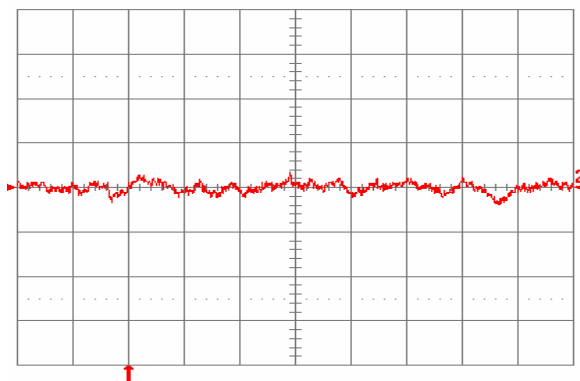

**Fig. 5.0V.14:** Test Setup for measuring input reflected ripple currents,  $i_c$  and  $i_s$ .
**Fig. 5.0V.1:** Available load current vs. ambient air temperature and airflow rates for SQ48T10050 converter with D height pins mounted vertically with  $V_{in} = 48\text{ V}$ , air flowing from pin 3 to pin 1, and maximum FET temperature  $\leq 120^\circ\text{C}$ .
**Fig. 5.0V.2:** Available load current vs. ambient air temperature and airflow rates for SQ48T10050 converter with D height pins mounted horizontally with  $V_{in} = 48\text{ V}$ , air flowing from pin 3 to pin 1, and maximum FET temperature  $\leq 120^\circ\text{C}$ .
**Fig. 5.0V.3:** Available load current vs. ambient air temperature and airflow rates for SQ48S10050 converter mounted vertically with  $V_{in} = 48\text{ V}$ , air flowing from pin 3 to pin 1, and maximum FET temperature  $\leq 120\text{ }^{\circ}\text{C}$ .
**Fig. 5.0V.4:** Available load current vs. ambient air temperature and airflow rates for SQ48S10050 converter mounted horizontally with  $V_{in} = 48\text{ V}$ , air flowing from pin 3 to pin 1, and maximum FET temperature  $\leq 120\text{ }^{\circ}\text{C}$ .
**Fig. 5.0V.5:** Efficiency vs. load current and input voltage for SQ48T/S10050 converter mounted vertically with air flowing from pin 3 to pin 1 at a rate of 300 LFM (1.5 m/s) and  $T_a = 25\text{ }^{\circ}\text{C}$ .
**Fig. 5.0V.6:** Efficiency vs. load current and ambient temperature for SQ48T/S10050 converter mounted vertically with  $V_{in} = 48\text{ V}$  and air flowing from pin 3 to pin 1 at a rate of 200 LFM (1.0 m/s).
**Fig. 5.0V.7:** Power dissipation vs. load current and input voltage for SQ48T/S10050 converter mounted vertically with air flowing from pin 3 to pin 1 at a rate of 300 LFM (1.5 m/s) and  $T_a = 25^\circ\text{C}$ .
**Fig. 5.0V.8:** Power dissipation vs. load current and ambient temperature for SQ48T/S10050 converter mounted vertically with  $V_{in} = 48\text{ V}$  and air flowing from pin 3 to pin 1 at a rate of 200 LFM (1.0 m/s).
**Fig. 5.0V.9:** Turn-on transient at full rated load current (resistive) with no output capacitor at  $V_{in} = 48\text{ V}$ , triggered via ON/OFF pin. Top trace: ON/OFF signal (5 V/div.). Bottom trace: output voltage (2 V/div.). Time scale: 2 ms/div.
**Fig. 5.0V.10:** Turn-on transient at full rated load current (resistive) plus 10,000  $\mu\text{F}$  at  $V_{in} = 48\text{ V}$ , triggered via ON/OFF pin. Top trace: ON/OFF signal (5 V/div.). Bottom trace: output voltage (2 V/div.). Time scale: 2 ms/div.
**Fig. 5.0V.11:** Output voltage response to load current step-change (2.5 A – 5 A – 2.5 A) at  $V_{in} = 48$  V. Top trace: output voltage (200 mV/div.). Bottom trace: load current (2 A/div.). Current slew rate: 0.1 A/ $\mu$ s.  $C_o = 1$   $\mu$ F ceramic. Time scale: 0.2 ms/div.
**Fig. 5.0V.12:** Output voltage response to load current step-change (2.5 A – 5 A – 2.5 A) at  $V_{in} = 48$  V. Top trace: output voltage (200 mV/div.). Bottom trace: load current (2 A/div.). Current slew rate: 5 A/ $\mu$ s.  $C_o = 450$   $\mu$ F tantalum + 1  $\mu$ F ceramic. Time scale: 0.2 ms/div.
**Fig. 5.0V.13:** Output voltage ripple (20 mV/div.) at full rated load current into a resistive load with  $C_o = 10$   $\mu$ F tantalum + 1  $\mu$ F ceramic and  $V_{in} = 48$  V. Time scale: 1  $\mu$ s/div.
**Fig. 5.0V.15:** Input reflected ripple current,  $i_c$  (100 mA/div.), measured at input terminals at full rated load current and  $V_{in} = 48$  V. Refer to Fig. 5.0V.14 for test setup. Time scale: 1  $\mu$ s/div.
**Fig. 5.0V.16:** Input reflected ripple current,  $i_s$  (10 mA/div.), measured through 10  $\mu$ H at the source at full rated load current and  $V_{in} = 48$  V. Refer to Fig. 5.0V.14 for test setup. Time scale: 1  $\mu$ s/div.
**Fig. 5.0V.17:** Output voltage vs. load current showing current limit point and converter shutdown point. Input voltage has almost no effect on current limit characteristic.
**Fig. 5.0V.18:** Load current (top trace, 10 A/div., 20 ms/div.) into a 10  $m\Omega$  short circuit during restart, at  $V_{in} = 48$  V. Bottom trace (10 A/div., 1 ms/div.) is an expansion of the on-time portion of the top trace.